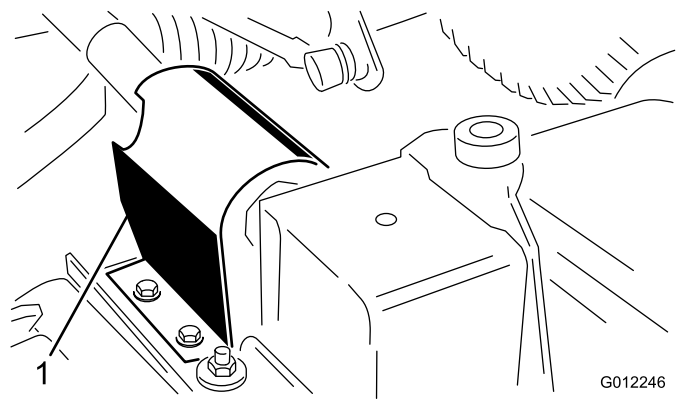

Figure 8
2. Remove the 2 self-tapping screws securing the PTO shield to the top of the cutting unit gear box mounting plate and remove the shield (Figure 8).